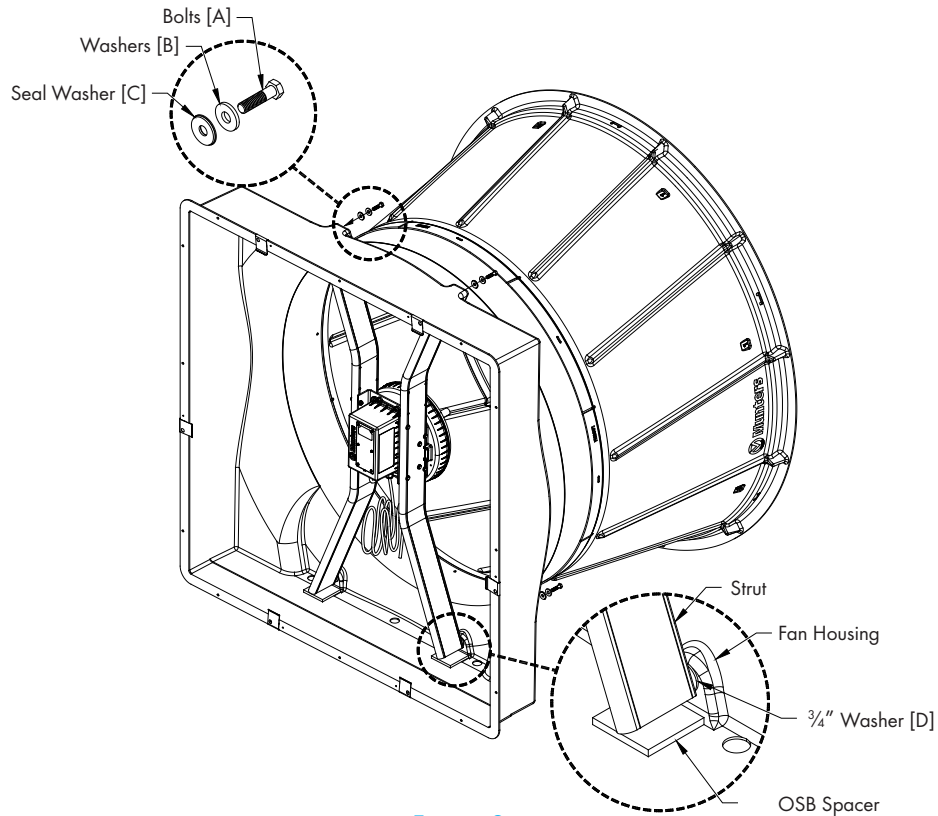

Figure 9
With the new Munters Drive Retrofit Kit in the fan fasten the struts of the Kit to the fan housing using (4) Bolts [A], Washers [B] and Seal Washers [C]. When fastening the bottom of the struts to the bottom of the fan housing make sure that the (2) $\frac{3}{4}$ " Washers [D] are around the threaded insert. See Figure 9. FINGER TIGHTEN ONLY AT THIS TIME.